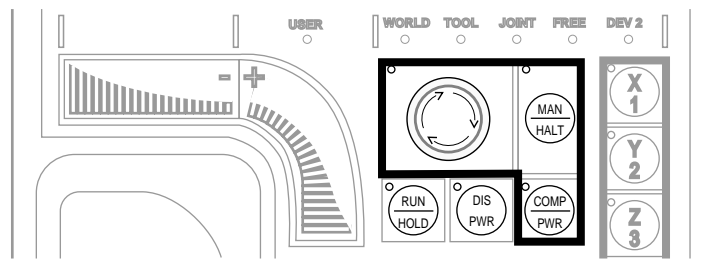

Figure 4-5. Mode Control Buttons
2. Press the MAN/HALT button (see Figure 4-5) several times until the JOINT LED is illuminated.